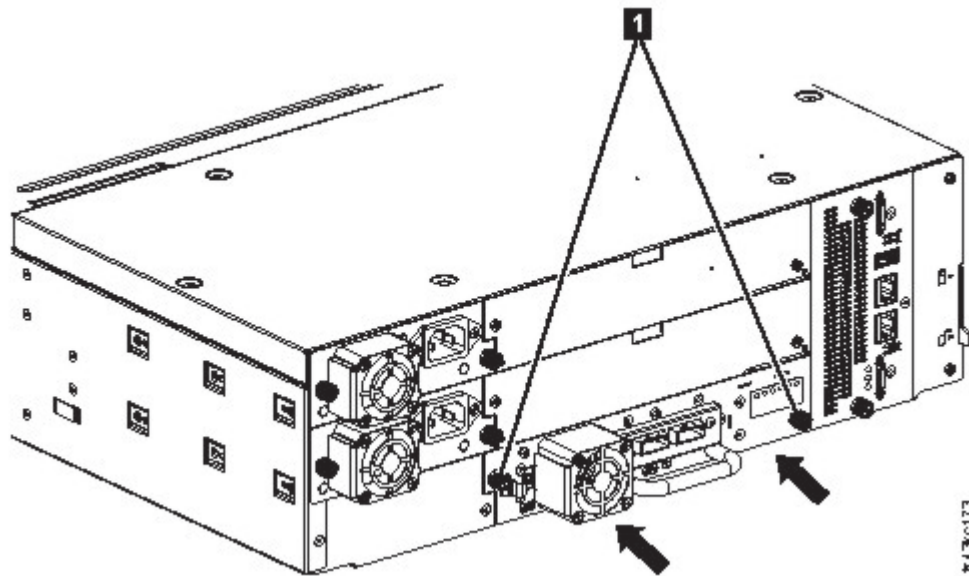

Figure 60. Installing a tape drive
3. Tighten the captive thumbscrews (1 in Figure 60 on page 121) with your fingers until the tape drive is secure.